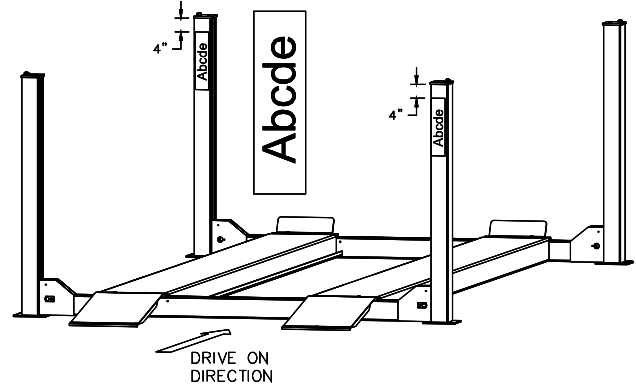

Fig 20 – Decal Placement
- 46) Apply decal 4" from top of columns, **Fig 20**.